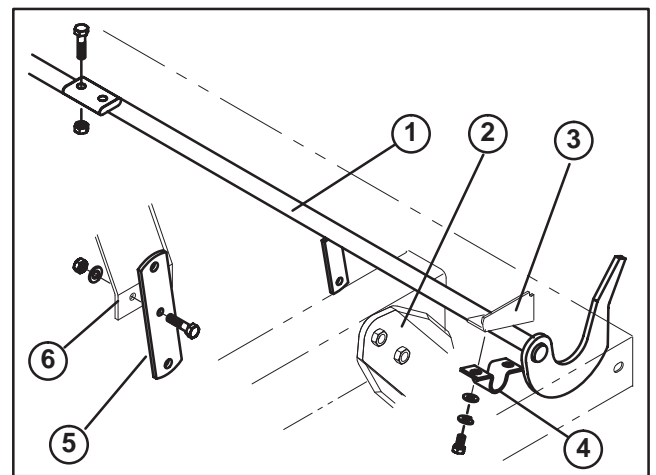

Figure 2
4. Slide a tailgate pivot shaft under each side of bed and over bed frame channels until they meet at rear, center of bed (Fig. 2). Pivot shaft with welded bracket to be used on left side. Both shafts to be positioned rear of bed pivot brackets.
5. Secure ends of pivot shafts together with (2) 5/16-18 x 1-1/4" lg. capscrews and locknuts (Fig. 2). Check to assure shafts are aligned. Loosen screws and realign if necessary. Tighten capscrews securely.
6. Loosely mount outer ends of each pivot shaft to mounting brackets on underside of bed with a pivot shaft keeper, (2) 1/4–20 x 1/2" lg. capscrews, lockwashers and flat washers (Fig. 2).
8. With a 5/16–18 x 1–1/4" lg. capscrew, flat washer and locknut, mount pivot lever to bent bracket on underside of bed. Shorter, (2 1/2") end of lever to be positioned upward, towards bed (Fig. 2). Do not over tighten capscrew. Lever must pivot freely.